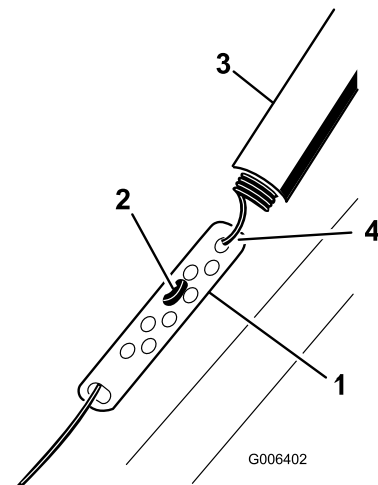

Figure 27
- Slide up the spring cover and unhook the spring from the adjuster link (Figure 27).